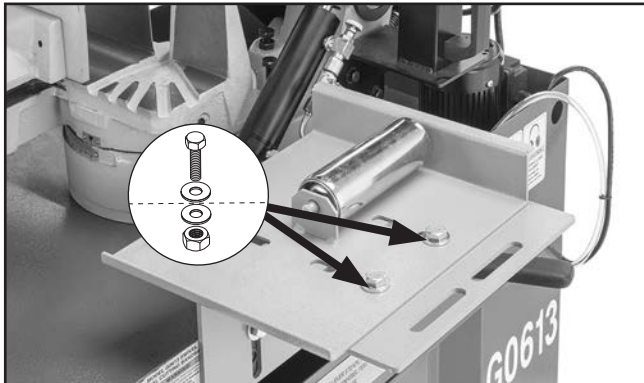

Figure 4. Outfeed roller plate attached.
2. Attach outfeed roller plate to mounting bracket with (2) M10-1.5 x 25 hex bolts, (4) 10mm flat washers, and (2) M10-1.5 hex nuts (see **Figure 4**).